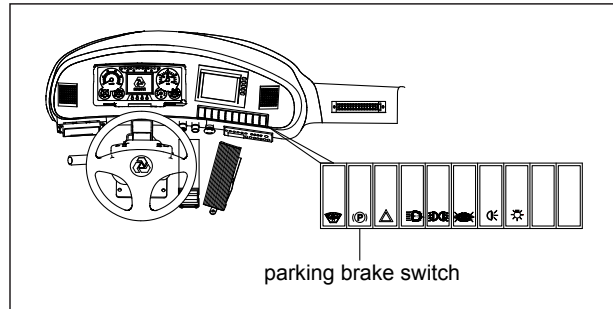

Fig 4.12
1. Make sure the parking brake switch is in the 'PARK' position.(see Fig 4-12).